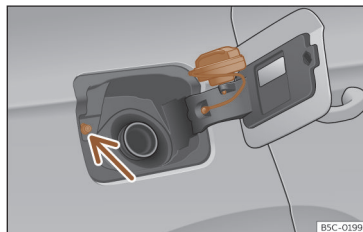

Fig. 215 Fuel tank flap with tank cap attached.
Avoid touching the fuel tank flap lock button »» » Fig. 215 (arrow). The system will interpret that you have finished and cannot continue refuelling. Press the  button on the driver's door again to continue.
• Place it in the space on the hinge of the open flap »» » Fig. 215 .